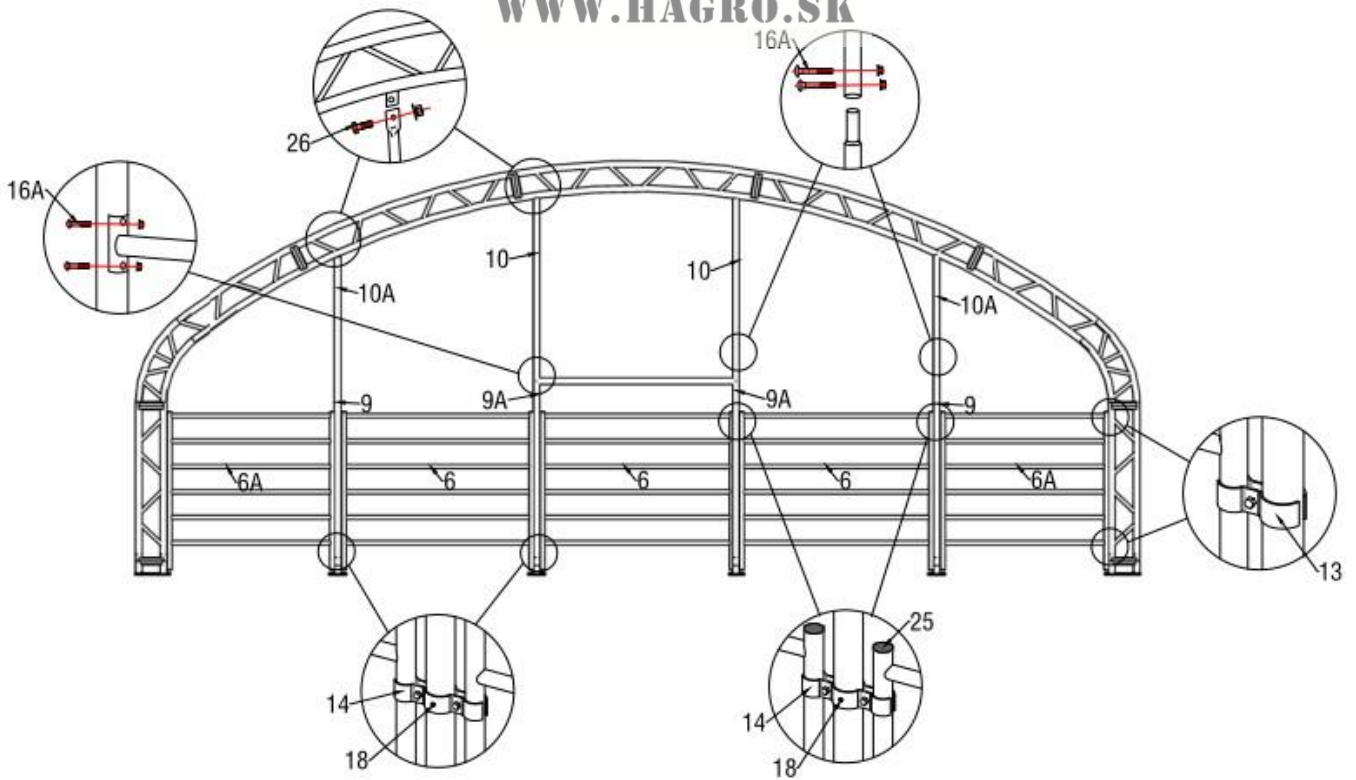

Figure 6
1. Install the front and back panel according to Figure 5 and Figure 6